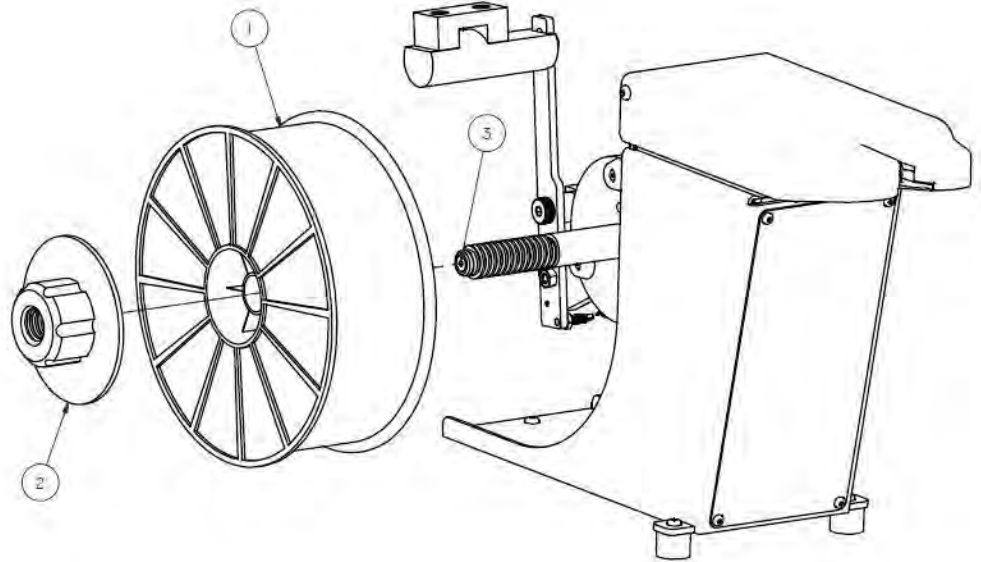
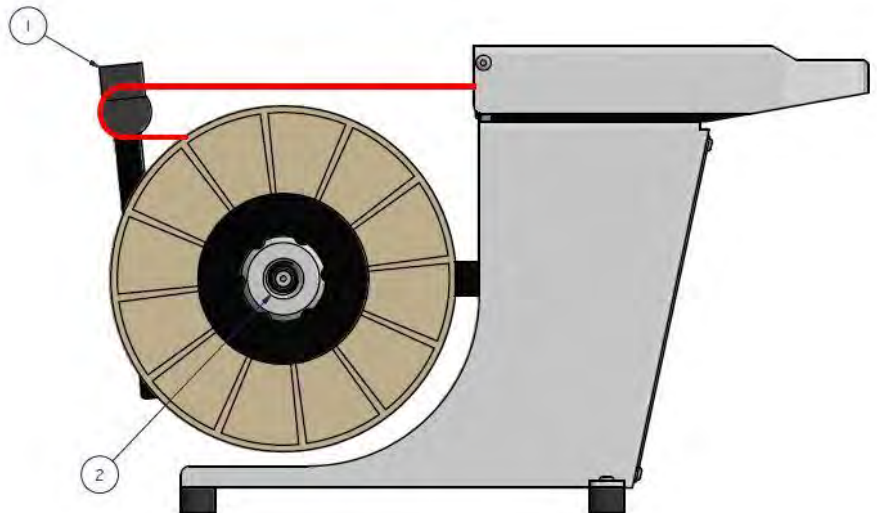
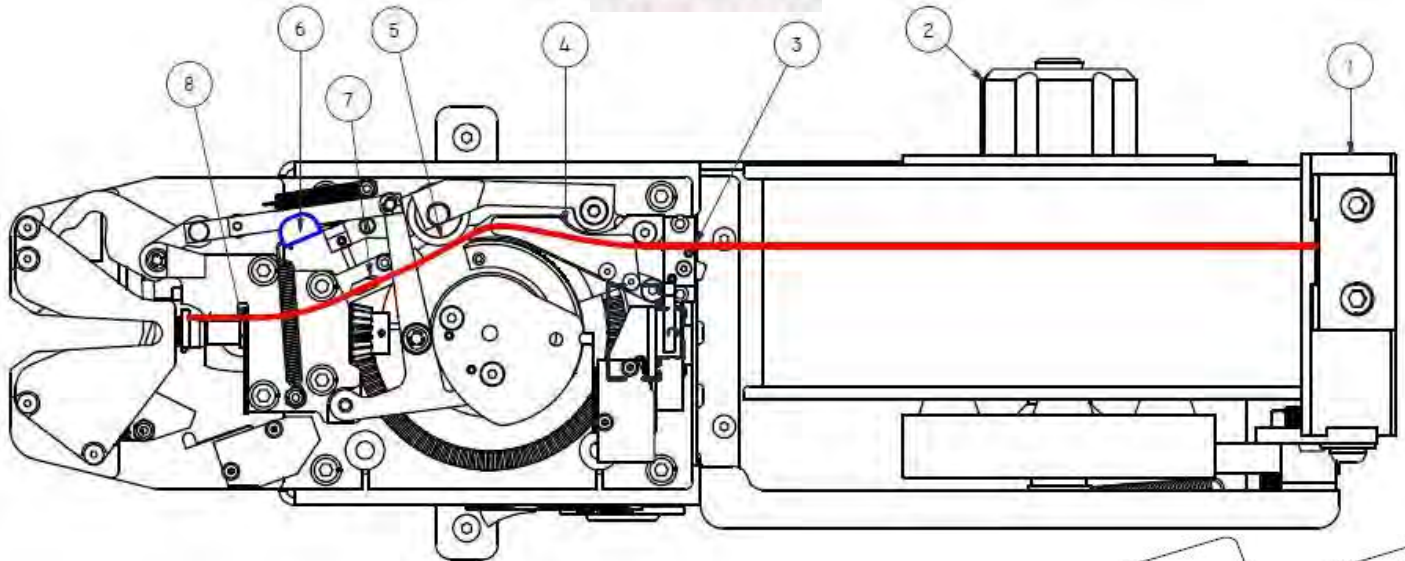
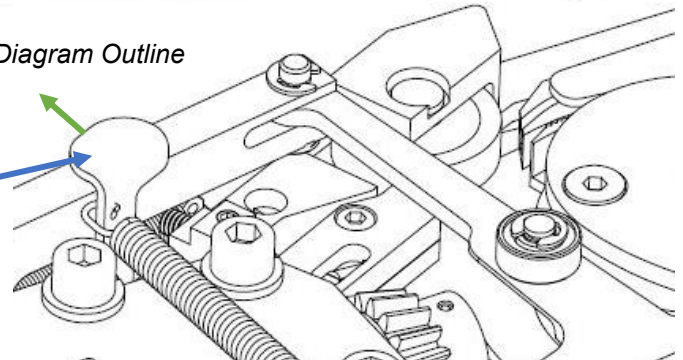

Figure 2.3.1 Loading/Unloading a Spool
Figure 2.3.2 String Up Diagram Through Machine
Figure 2.3.3 String Up Diagram Outline
Figure 2.3.4 Pivot Arm Bracket
(Reference Figure 2.3.1, Figure 2.3.2, Figure 2.3.3, & Figure 2.3.4)
1. Place the spool on the threaded spindle (3). Ensure the tie is coming off the top of the spool towards the payout dancer arm (Figure 2.3.1).
2. Tighten the spool lock (2) counterclockwise on threads to hold the spool in place.
1. Cut the tie material between the spool and anti-backup assembly at the rear of the machine. Refer to *Figure 2.3.4*. If the spool is empty and the tie material is freely detached from the spool, proceed with the following.
2. Open the lid and pull the tie material out by grabbing it at the opening near the feed roller and feed drum. This is near item 5 in *Figure 2.3.3*. A needle-nose pliers might be needed.